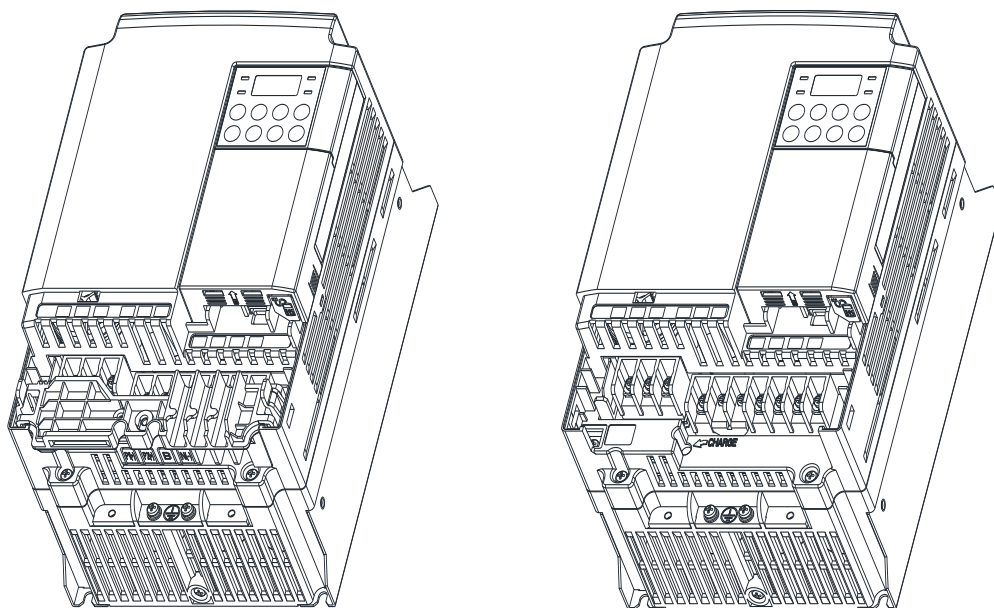

Figure 4. Remove Power Cover and Cable Guide
- ① Remove the power cover and cable guide from the inverter as shown in the Figure 4.